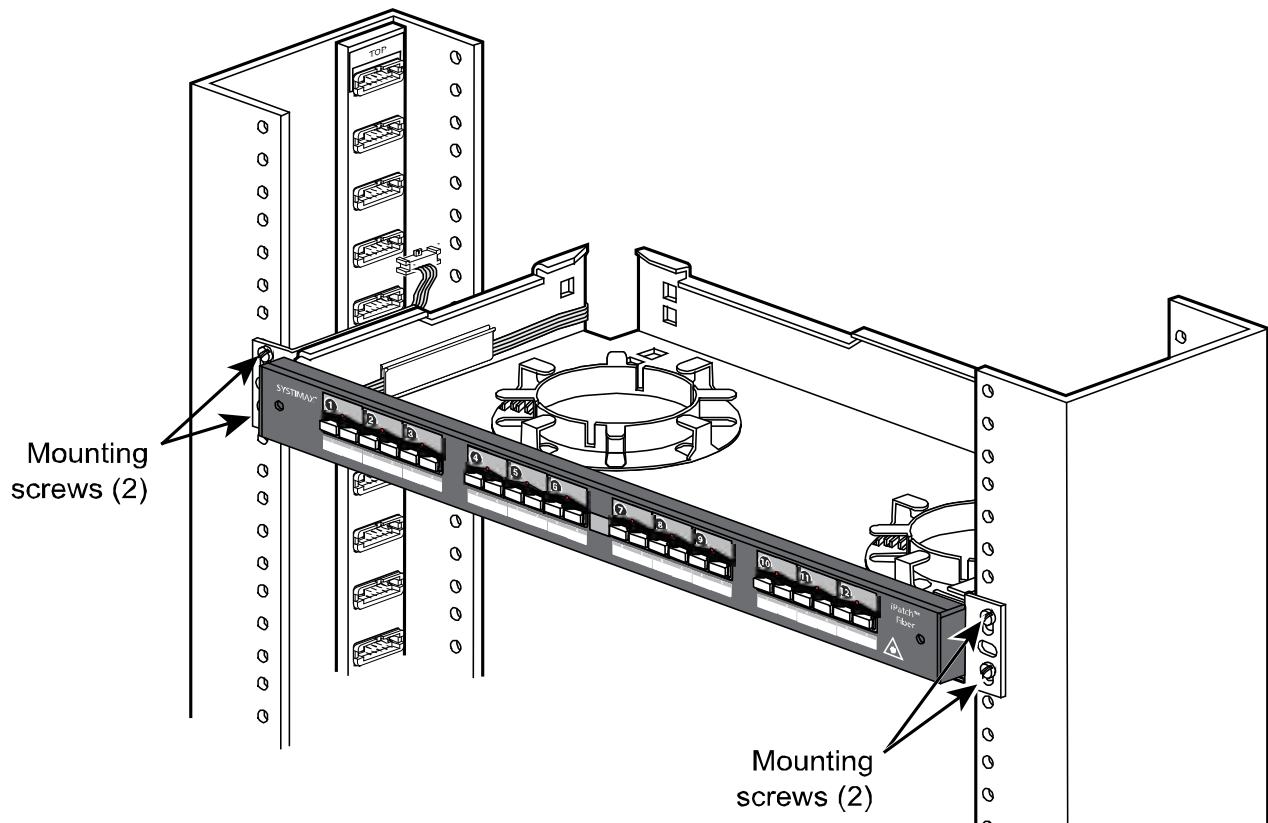

Figure 2 Installing the Shelf in the Rack
2. Mount the shelf in the rack using the four #12-24 x 3/8 inch screws provided (Figure 2).